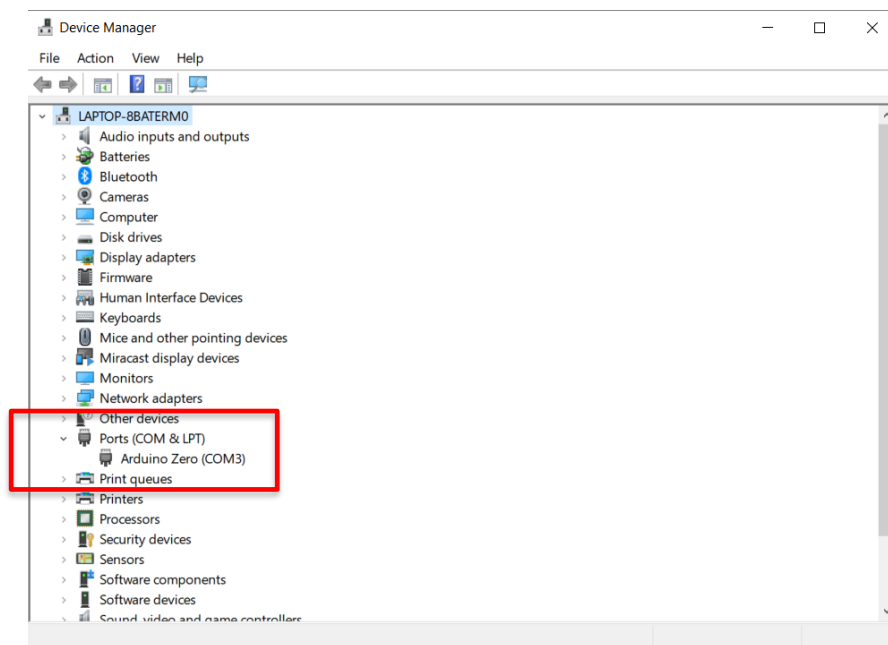

Figure 6.36. Assignment of USB port for ABU v01.
- Open the Device Manager of Windows (Figure 6.36) and check the number of the USB port assigned to ‘Arduino Zero’ under ‘Ports (COM & LPT)’, in the example in Figure 6.36, the assigned number is 3 (i.e., COM3).